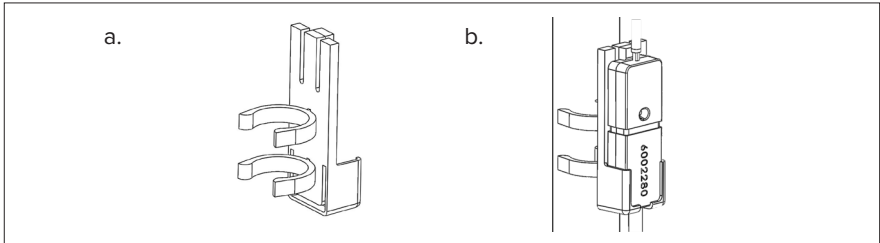

Figure 7: Connect the Clips
- As shown in **FIGURE 7**, connect the clips to the back of the flow sensor board holder.